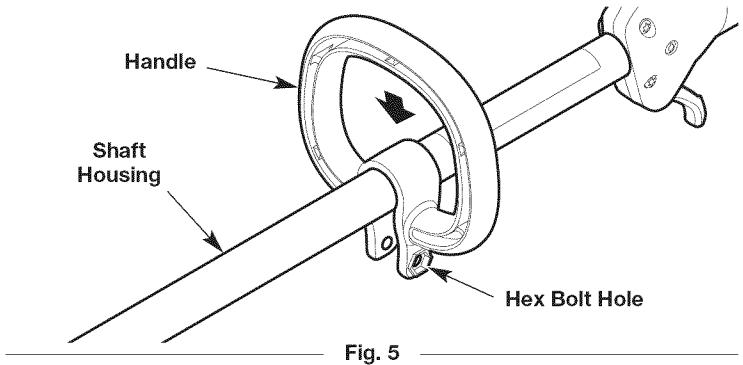

Fig. 5
1. Push the handle down onto the shaft housing (Fig. 5). Make sure the hex bolt hole faces to the left (Fig. 5).